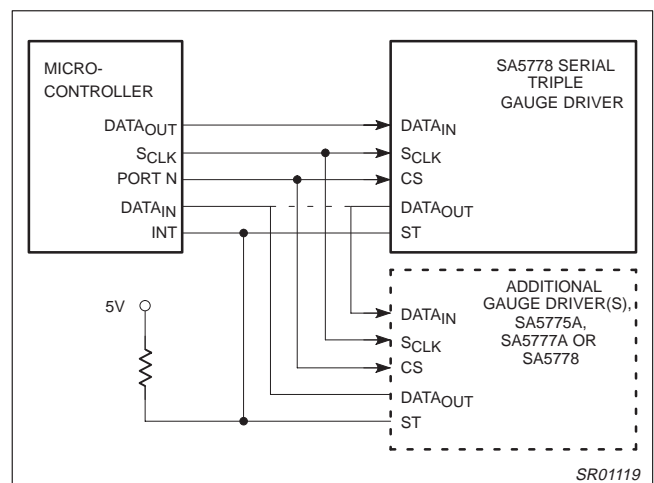
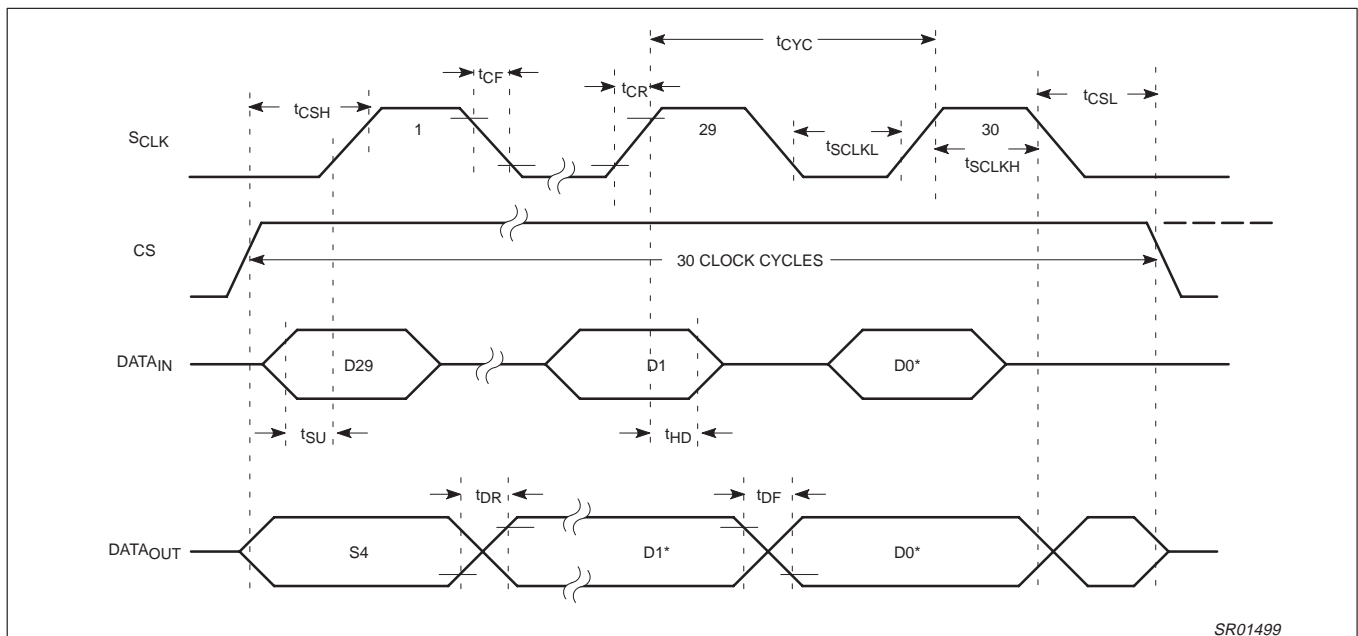
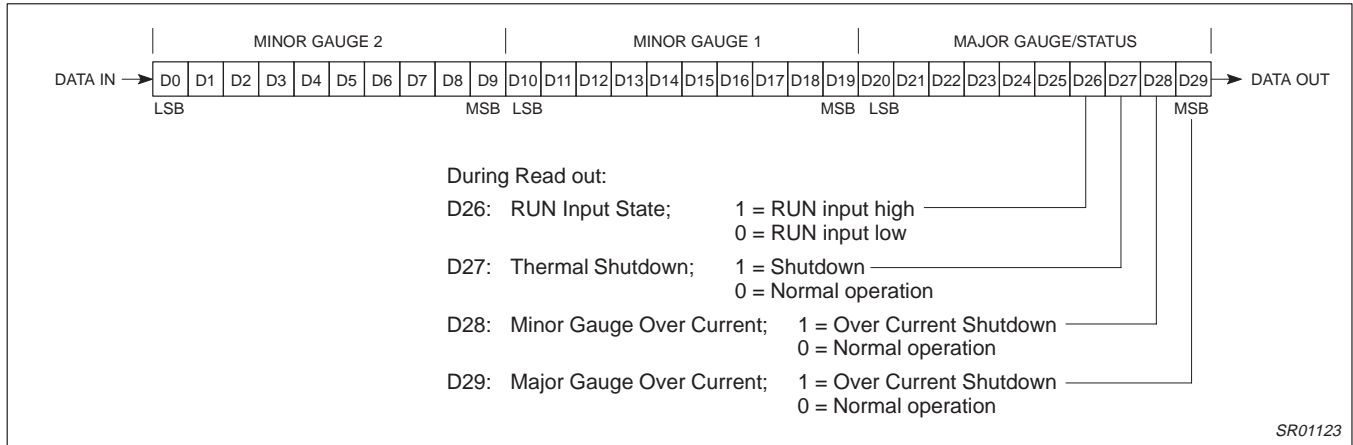

Figure 4. Serial Communications Between STGD, Microcontroller and Other Gauge Drivers
Figure 10. Serial Interface Timing
Figure 11. Internal Shift Register
Figure 4 demonstrates the connections between the STGD, the microcontroller, and optionally additional gauge drivers such as the SGD and DGD. With an active high on the chip select input (CS), data is shifted into the STGD through DATA_{IN} on the rising edge of S_{CLK}. Several gauge drivers may be wired in series using a common chip select and clock line, when more than three gauges are needed. The DATA_{OUT} pins are cascaded to the DATA_{IN} pins of the following gauge drivers. Status information can be returned to the microcontroller via the ST pins of each gauge driver. These are open-drain, active low outputs, which may be wire OR'ed together to signal that a fault, such as a thermal shut down, has occurred within one of the gauge drivers. This pin may be connected to a microcontroller port pin for polling in software, or may be connected to an external interrupt input to cause entry into an interrupt service routine. The STGD, may also pass status information back to the microcontroller serially. The rising edge of chip select loads status information into the shift register for the first four bits that will be shifted out of the STGD by the shift clock. Figure 11 shows the data bits within the shift register. A low on the ST pin signals that one or more status bits have been set in the status register. A high indicates all status bits are reset. The status output bits include minor gauge over current, major gauge over current, thermal shutdown and RUN. Gauge data is captured in latches by the falling edge of the chip select.
Figure 10 demonstrates the serial interface timing referenced in the AC specifications. Figure 11 shows the order of information transfer through the serial interface. On a low to high transition of the CS pin, status information replaces the four most significant bits of data in the shift register and are the first bits shifted out. Output data is changed on the falling edge of SCLK, while input data is captured on the rising edge of SCLK. Major gauge data is loaded first, starting with the most significant bit, followed by minor gauge 1 data then minor gauge 2 data.